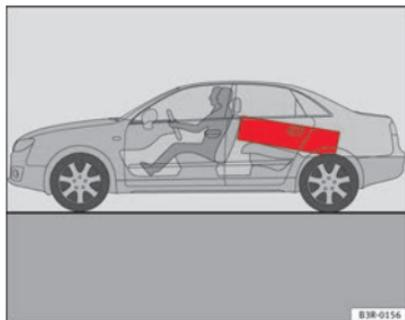

Fig. 114 Position heavy items as far forward as possible.
- Position heavy items as far forward as possible ⇒ Fig. 114.